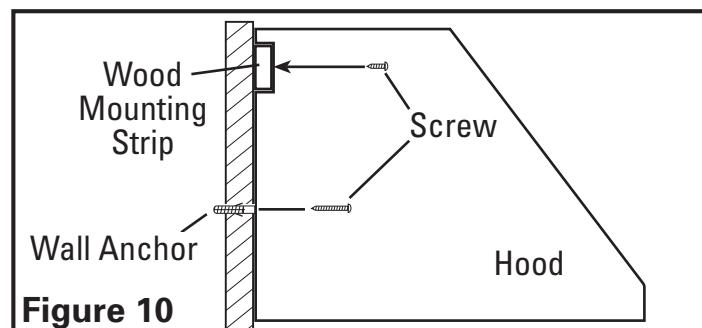

Figure 10
- Rest the cavity in the back side of the hood on the wood strip and secure hood to wood strip with the included 3/4" screws through the holes in the back of the hood that line up with the wood strip (use 6 screws for 30" and 36" widths and 8 screws for larger widths) Secure the bottom of the hood by installing the screws provided into the wall anchors. (**Figure 10**).